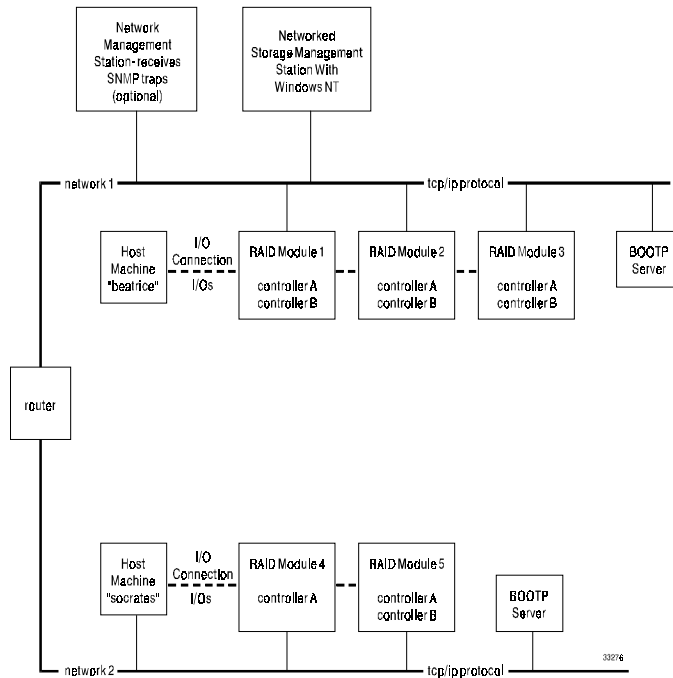

Figure 3. Sample Network System and Hardware Components
Figure 3 shows a sample setup of two networks. Each network contains a BOOTP server and at least one host machine connected to two or more RAID Controller modules. Remember that if the network spans multiple subnets, you may need one BOOTP server for each subnet that has a networked RAID Controller Unit.
Also in Figure 3, the host machines are connected to the RAID Controllers via an I/O data connection (Fibre Channel). This storage management software is unaware of these host machines, the operating system installed on them, and the I/O data connection. The software management station has no way to talk with the host system or to monitor the connection. Therefore, you need to follow the operating system's documentation when
**EXAMPLE** The following sample entry for a BOOTP table assumes you are configuring a UNIX BOOTP server, such as a server on network 1 as shown in Figure 3 on page 14. The `s3.default:\` entry denotes settings that are common to all controllers. The `tc=s3.default:\` entry associates this common setting group to a specific controller.